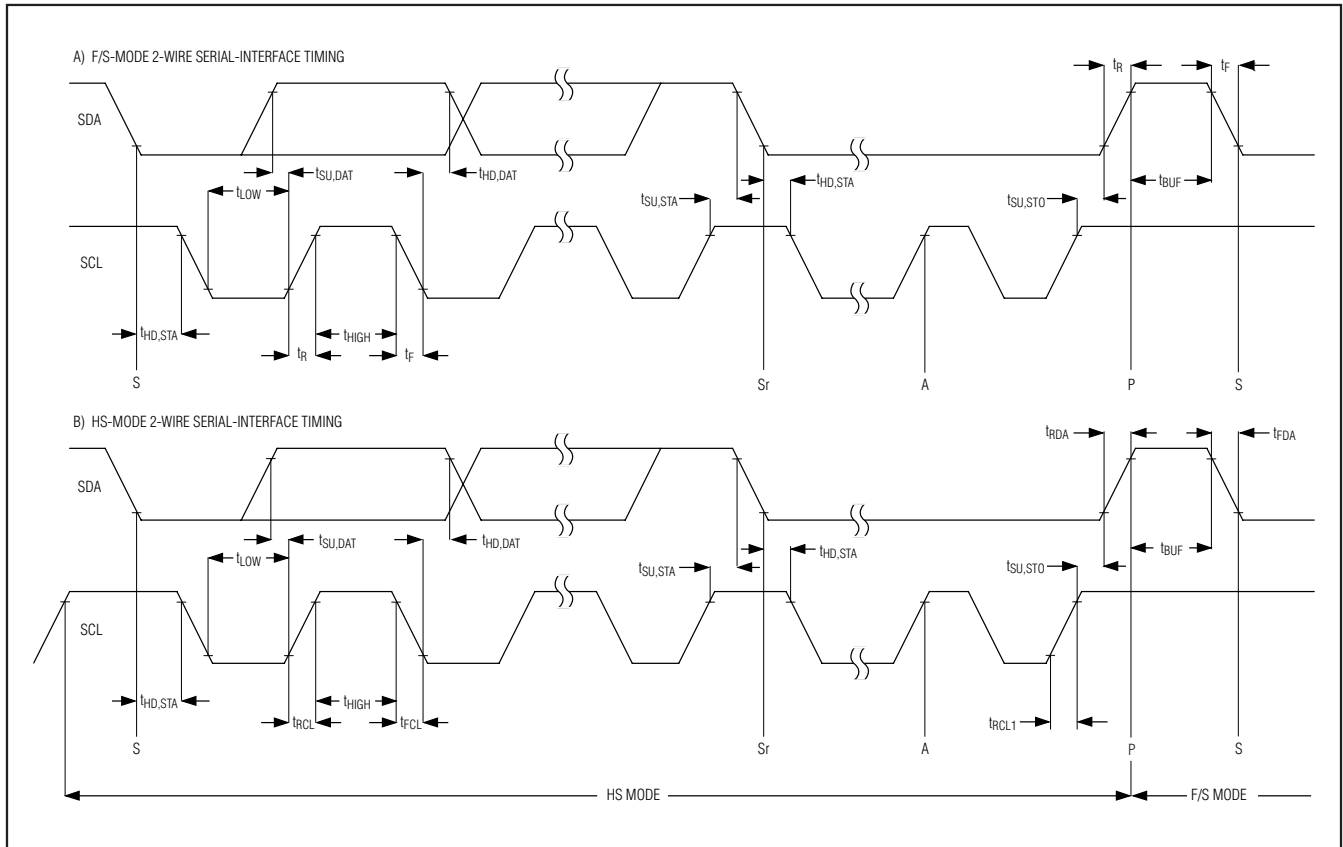

Figure 1. 2-Wire Serial-Interface Timing
## TIMING CHARACTERISTICS (Figure 1)
## TIMING CHARACTERISTICS (Figure 1) (continued)
- Note 11:** A master device must provide a data hold time for SDA (referred to VIL of SCL) to bridge the undefined region of SCL's falling edge (see Figure 1).
operate in high-speed mode (HS mode) to achieve conversion rates up to 94.4ksps. Figure 1 shows the bus timing for the MAX11644/MAX11645's 2-wire interface.